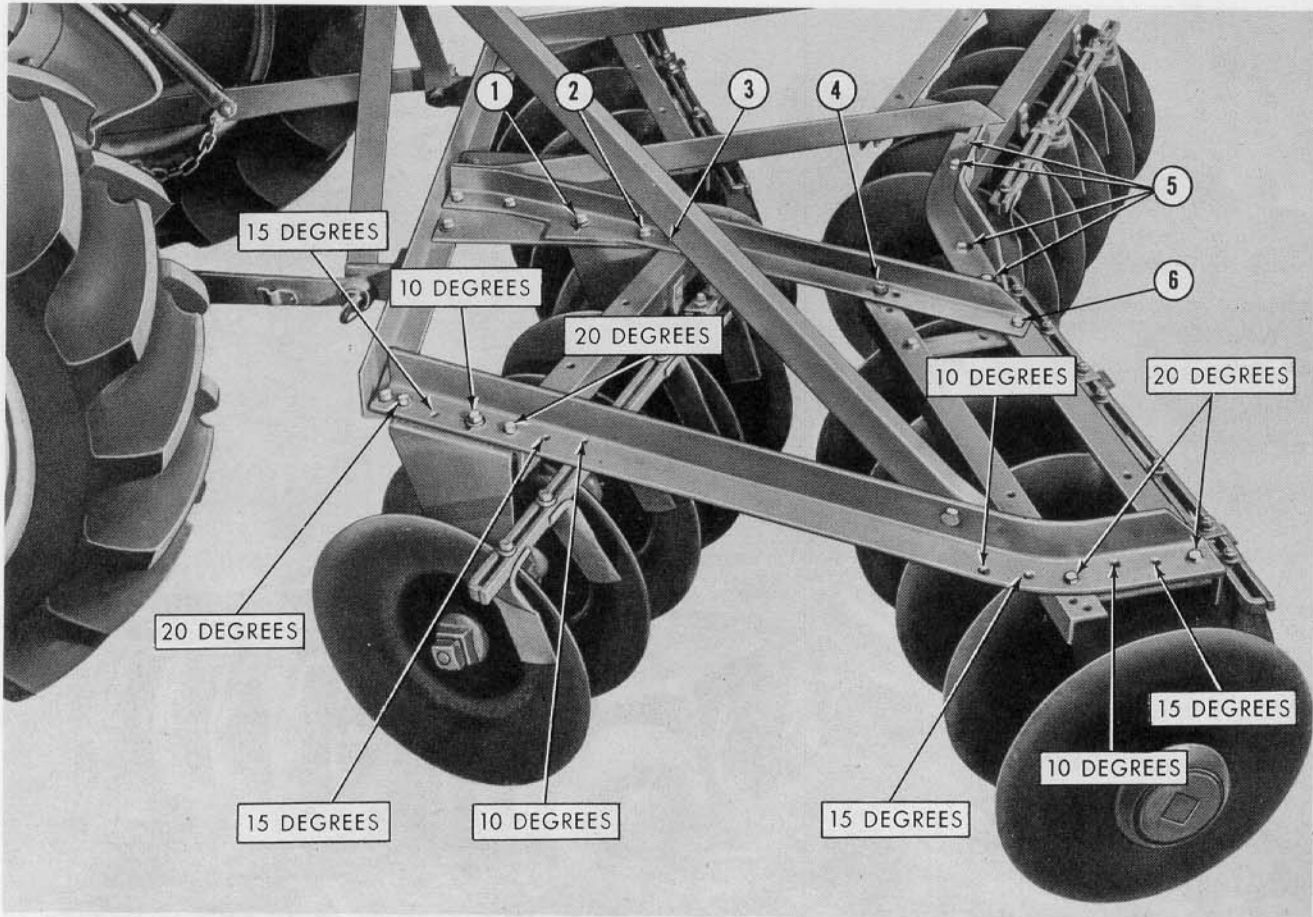

Figure 8
Changing the Gang Angle: Gangs may be individually positioned at angles of approximately ten, fifteen or twenty degrees. The angle to be used is largely determined by the type of soil being worked or by the amount of ridging or furrowing which is encountered. To adjust the angle of the front gangs, loosen the bolts (1), (2), and (3), Figure 8, at the inner end of each front gang. Remove the bolts and nuts from the top of each outer disc hanger and set the gangs at the desired angle. Replace the outer bolts in the proper holes to obtain the desired angle (See Figure 8) and secure with the nuts provided.